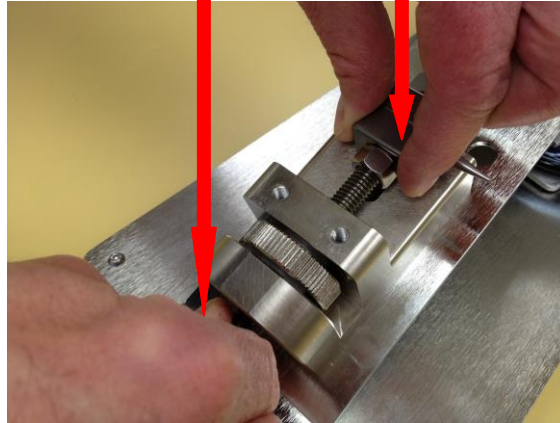

Figure 3.2.6
- Remove the ***Knurled lock nut*** and grab threaded rod by hand and rotate threaded rod counter clockwise while holding the lower expander jaw until the jaw is removed. ***Figure 3.2.6***